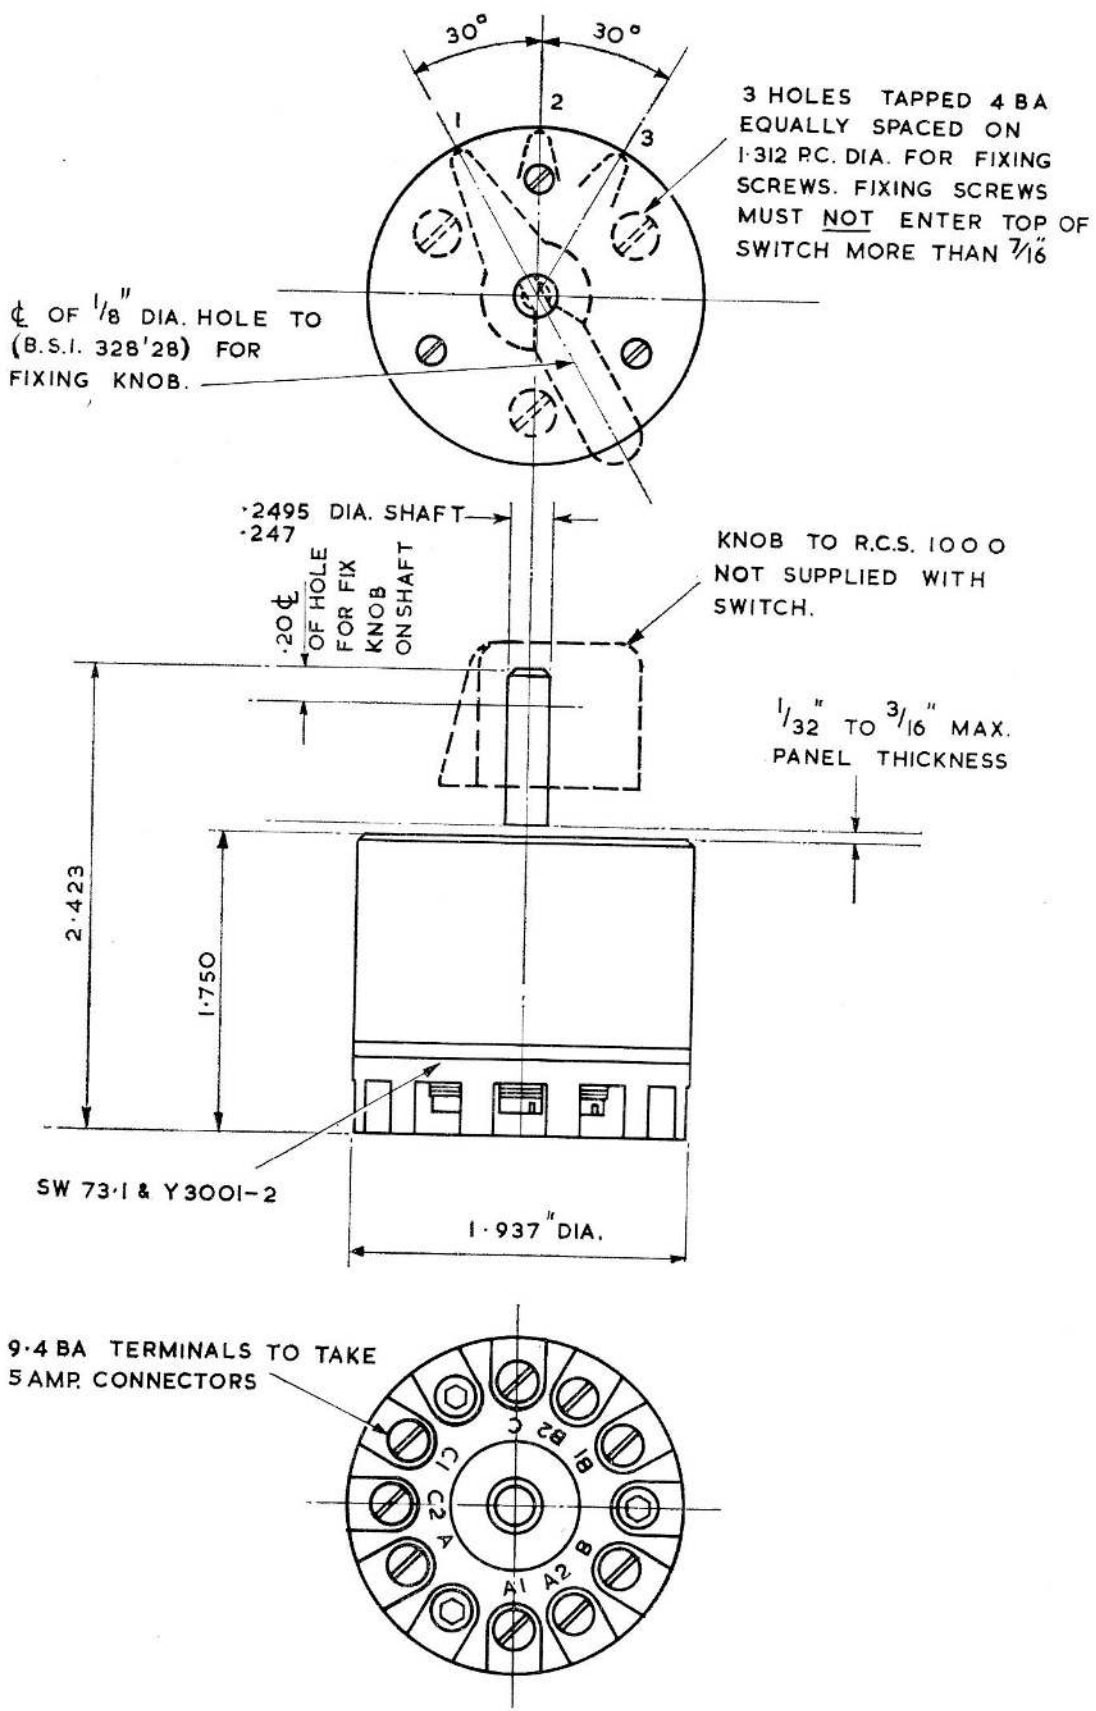

Fig. 3. Installation drawing of switch
8. The switches, which can be installed in any attitude, are panel mounted, the panel thickness can vary between  $\frac{1}{32}$  and  $\frac{3}{16}$  in. Three fixing holes, equally spaced, tapped 4 B.A. for securing switch to mounting panel are located at head of switch, fig. 3.